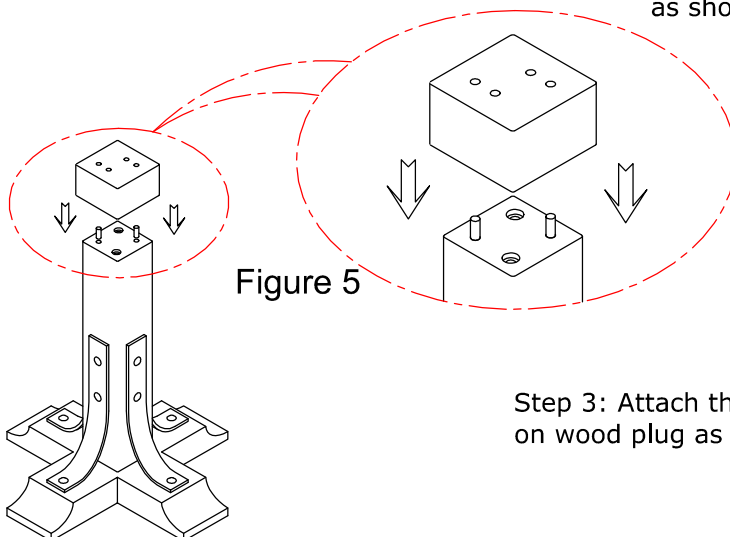

Figure 5
Step 3: Attach the wood extension block to right place on wood plug as shown on Fig 5